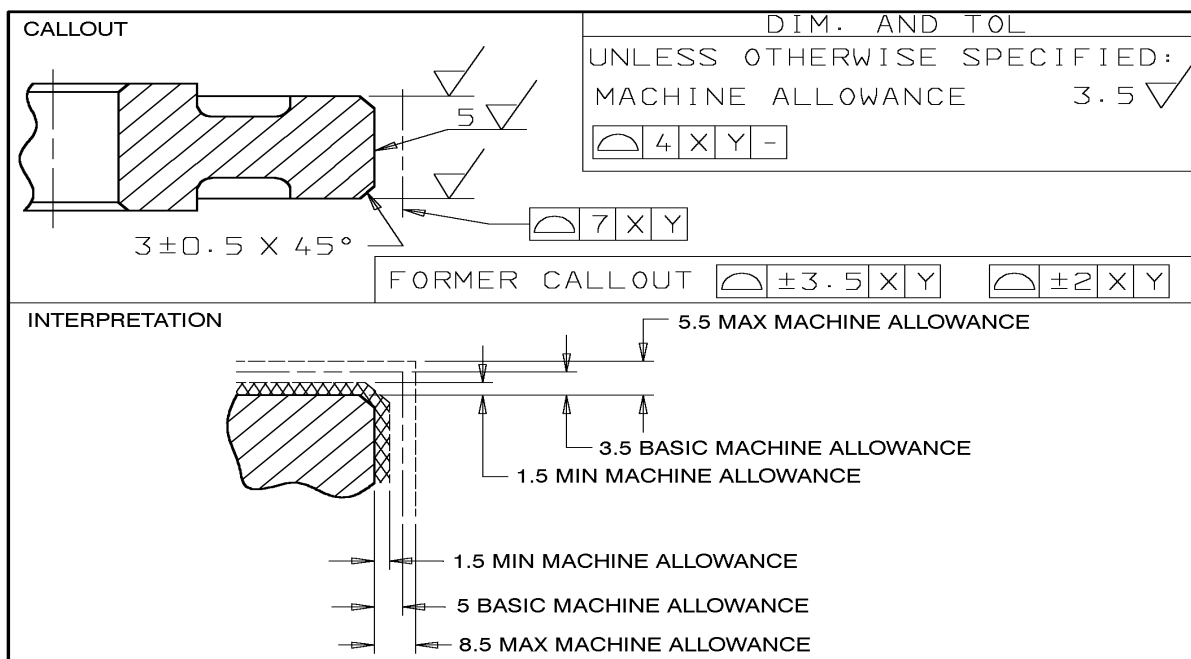

Figure 17 - Machine Allowance/Corner
**10.7 Machine Allowance – Corners** - Figure 17 illustrates machine allowance on a corner where the machined surface has a chamfer or radius.